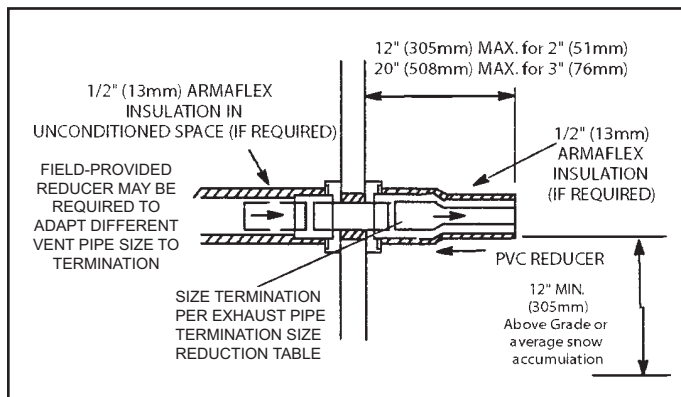

Figure 41. Non-Direct Vent Field Supplied Wall Termination
2. On field supplied terminations for side wall exit, exhaust piping may extend a maximum of 12 inches (305 mm) for 2" PVC and 20" (508 mm) for 3" (76 mm) PVC beyond the outside wall. See Figure 41.